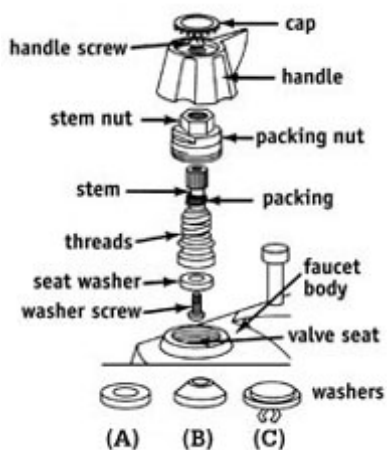

FIG. 1 - Compression faucet
- Washer-type faucets work with a rubber or composition washer that closes onto a metal washer seat (Fig. 1). The washer can become hardened, worn or the seat wears, causing the faucet to leak. You can close the faucet tighter to stop the leaking temporarily, but this increases the internal damage to the faucet.
older faucets). Loosen the Phillips-head screw, which usually is beneath a decorative cap in the center of the handle. The cap either unscrews or snaps off when you pry it with a knife blade. If you must use pliers on decorative faucet parts, pad them with electrical tape or cloth to protect the finish. And take special care with the plastic parts found on many modern faucets. Next, lift or pry the handle off its broached stem. Unscrew the packing nut beneath the handle, exposing the rest of the stem. Remove the stem by rotating it in the "on" direction. It will thread out. Reinstall the handle if you have difficulty turning it (Fig. 1). Clean chips from the faucet cavity, but do not use harsh abrasives or a file.
- It's important to install the correct type of faucet washer (Fig. 1, bottom). A swiveling washer (C) is preferable to either (A) or (B). To install washer style (C), file the shoulder off the end of the stem, drill out the threads of the screw hole. Instead of rubbing against the seat as it closes, a swiveling washer closes with a straight-down, frictionless action – this allows it to outlast fixed washers.
this packing around the stem just beneath the packing nut (Fig. 1). Use three complete wraps if you're applying string-type packing. Some stems use O-rings, rather than packing. For these stems, replace the O-ring with a matching one to stop a leak. Hand tighten the packing nut, then tighten it another half-turn.